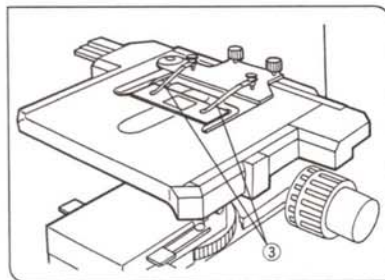
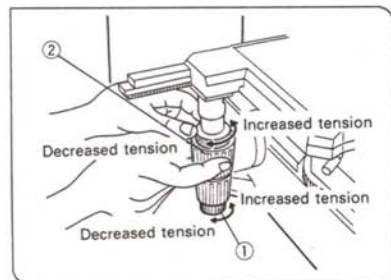

Fig. 22
Fig. 23
1. Loosen the filter cassette clamping screw ①. (Fig. 22)
2. Holding the filter cassette above the light exit glass, align the key ② with the slot ③ and press the filter cassette into place from above.
3. Rotate the filter cassette to align its sides with the base. (Fig. 23)
4. Align the clamping screw ① with the positioning hole ④ on the light exit, then tighten the screw to fasten the filter cassette.
2 Adjust the Tension of the X and Y Axes Knobs (Fig. 23)